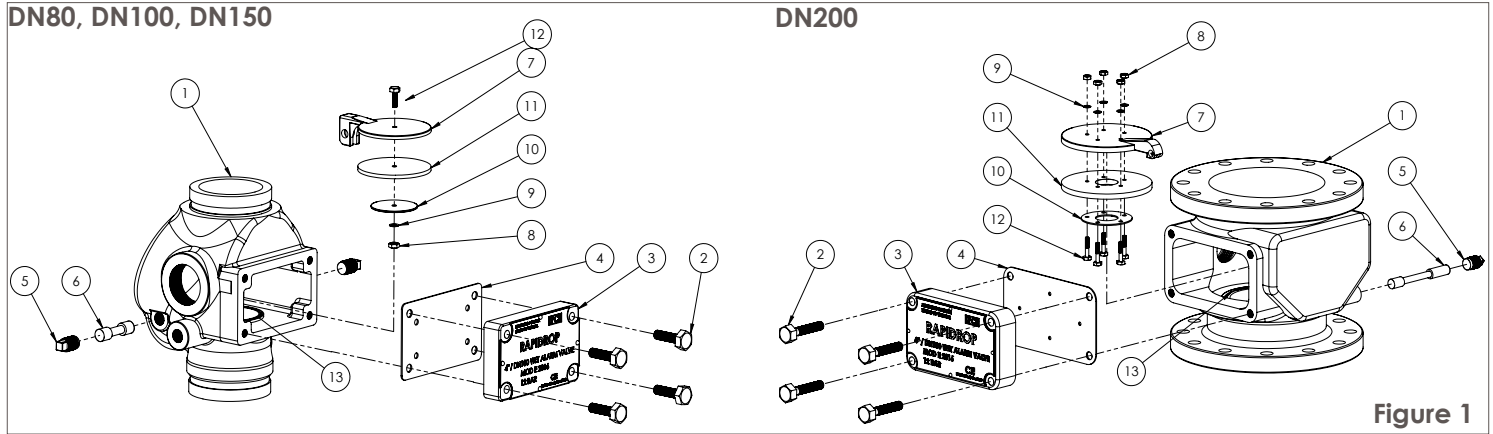

Figure 1
### Maintenance (See Figure 1&2)
4. After the system is fully drained, remove the *cover plate* (3).
5. Remove the *clapper shaft retaining plug(s)* (5) and the *clapper shaft* (6).
6. Clean thoroughly removing any accumulated deposits. Inspect the *clapper gasket* (11).
7. If the *clapper gasket* (11) is worn or damaged, unscrew the *clapper nut* (8) and disassemble *clapper components* (7-12).
8. Replace damaged components with genuine replacement parts, and reassemble clapper as shown in Figure 1.
9. Inspect the *clapper seat ring* (13) inside the valve body for lodgement of dirt, bruising or scoring. Clean thoroughly if necessary.
10. A damaged *clapper seat ring* (13) can be carefully polished using lapping compound. If the damage is extensive then a complete new valve should be fitted.
11. After the inspection and replacement of parts, reinstall the *clapper assembly* (7-12) and fix it with the *clapper shaft* (6).